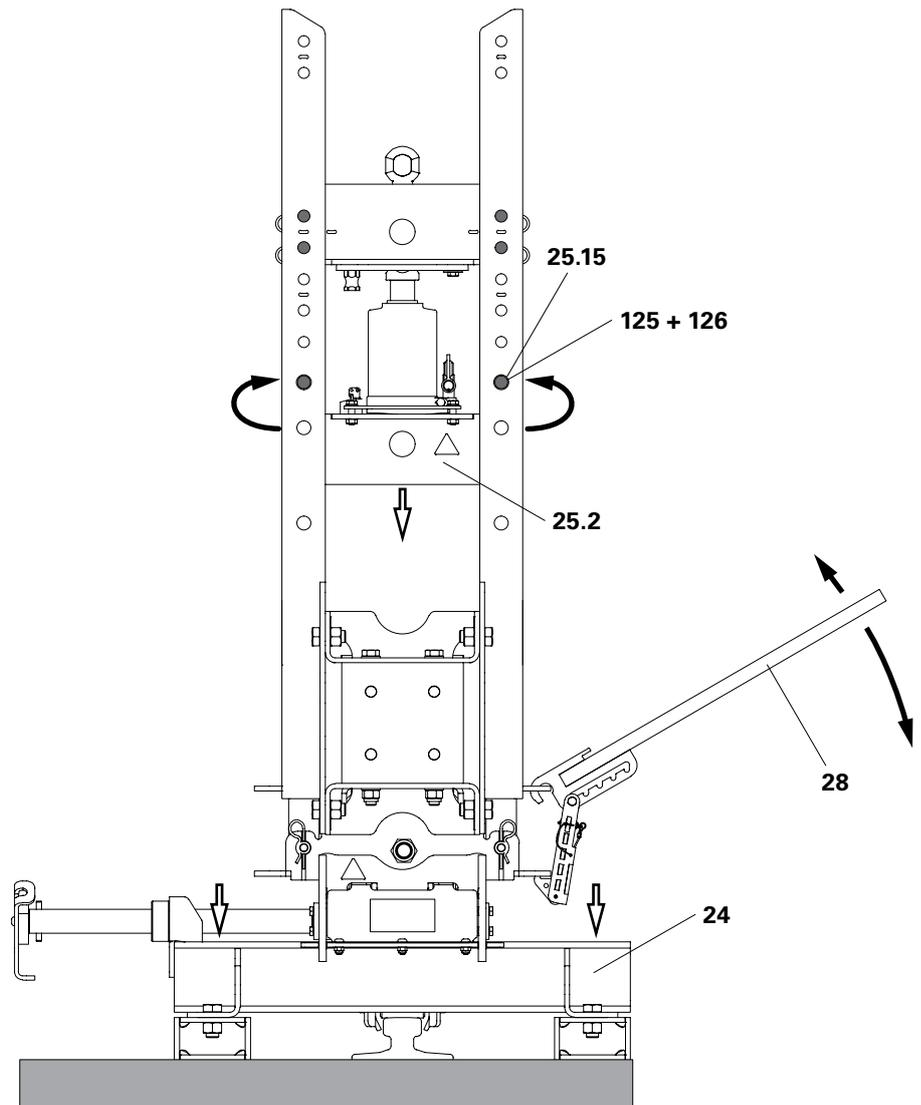

Fig. D2.10
1. Raise the Hinge Slide (24) slightly with the Lifting Tool (28) and thereby relieve the fitting pins (125) of the Cross Beam (25.2). See Section "Lifting Tool LALD VARIOKIT" on Page 24.
2. Remove fitting pins  $\varnothing$  26 mm (125) and cotter pins 5/1 (126) and insert in the parking position (25.15).
3. Release the Lifting Tool and thereby lower the Hinge Slides (24) to the ground.
4. Hang the Lifting Tool in the Lift Frame for parking. (Fig. D2.10)